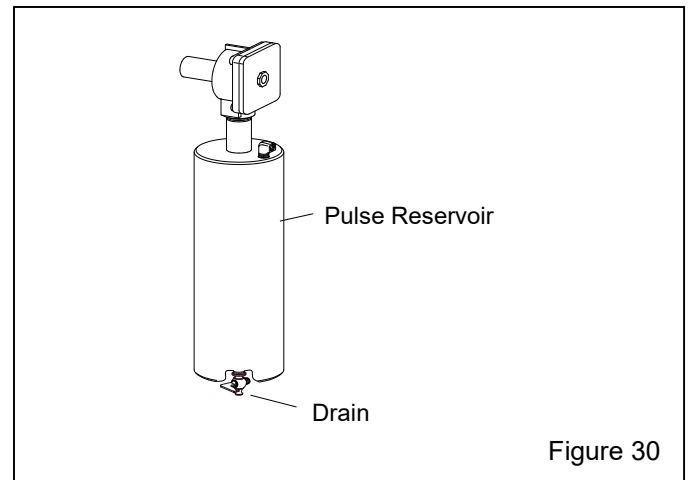

Figure 30
6.3.3 Drain pulse reservoir – Figure 30: At the end of the day, open the petcock to drain water from the reservoir and bleed air from the supply line. Close the petcock when the line is bled.